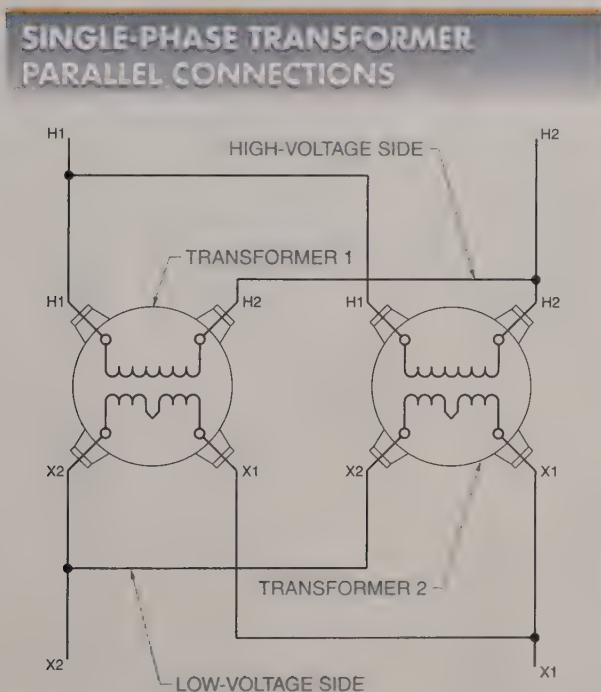

Figure 28-23. As long as certain conditions are met, 1 ϕ transformers may be connected in parallel.
- Impedance of either transformer is within $\pm 7\%$ (93% to 107%) of the other. See Figure 28-23.